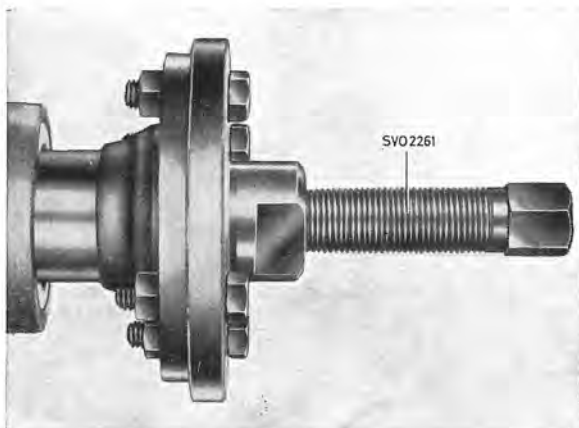

Fig. 4-14. Removing flange
2. Release the nut for the flange. Pull off the flange with puller 2261, see Fig. 4-14.
2. Release the nut for the flange. Use for this counterhold 2837. Pull off the flange with 2261, see Fig. 4-14. Remove the bolts and take off the rear cover as well as the large speedometer gear.